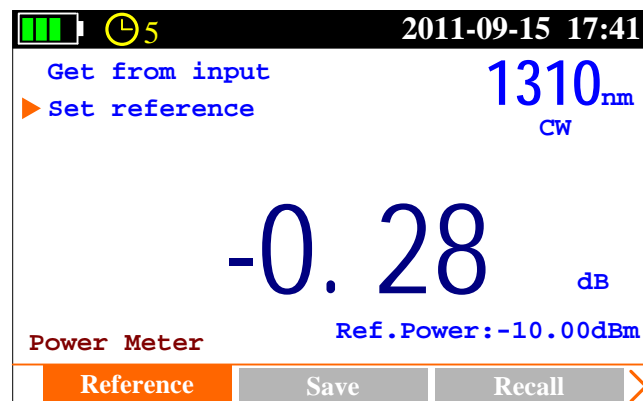

Figure 3.8
Press  and  to [Power Meter] interface, see Figure 3.8.
- ✚ Press  and  to [Reference] sub-interface, see Figure 3.8.